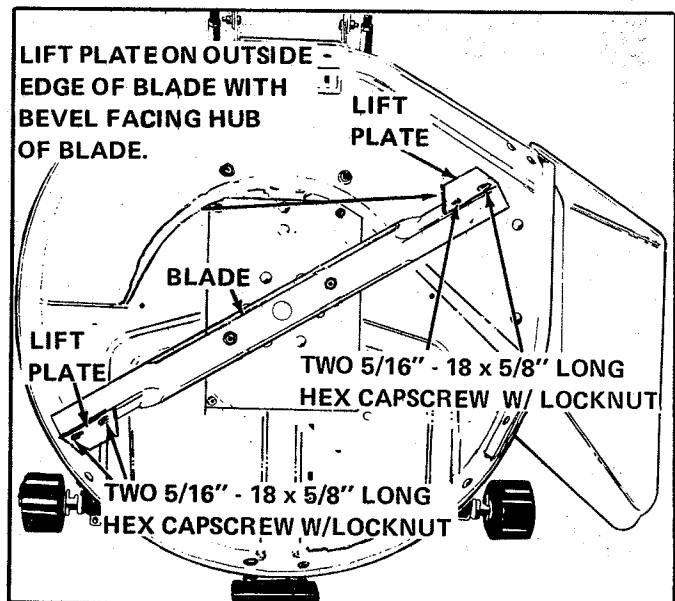

Figure 2.
2. See Figure 2. Attach mower lift plates (bevel to inside of housing) to mower blade with four capscrews and locknuts.